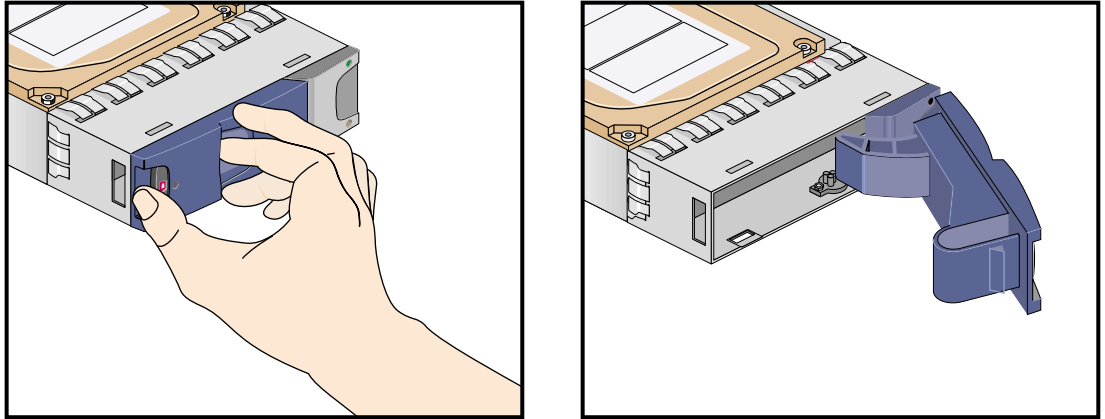

Figure 12-17 Opening the Module Handle
4. Open the handle of the replacement carrier by pressing the latch handle towards the right (see Figure 12-17).